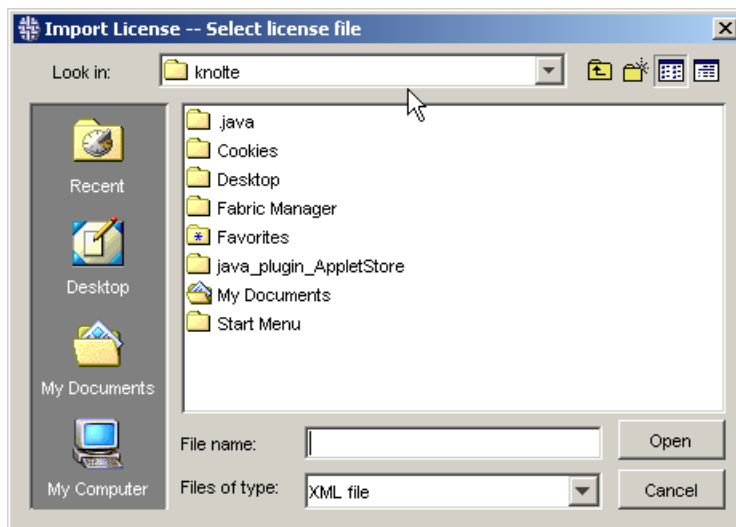

Figure 102 Importing a license
The Import License – Select license file window opens (see Figure 102).
2. Navigate to your license key file (not displayed in Figure 102), select it, and click **Open**.